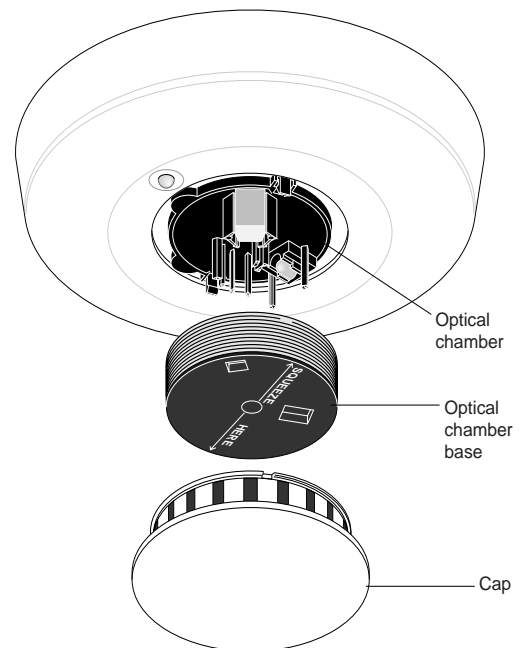

Figure 8 - Removing the Optical Chamber
3. Press in on the sides of the optical chamber and pull it up and away from the detector and discard. See Figure 8.